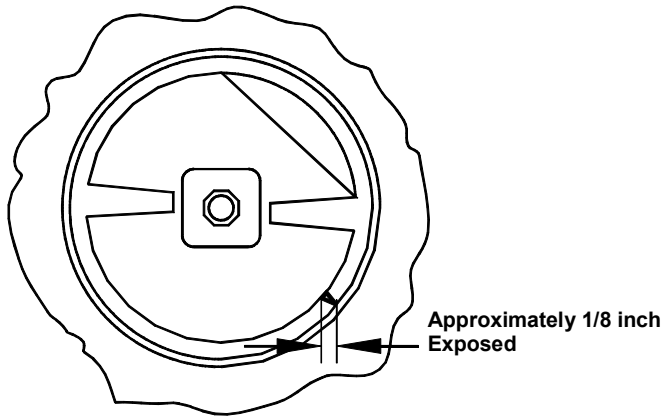

Fig. 21
- f. While maintaining force against the dasher, rotate it slowly until the tongue of the dasher engages the groove in the drive system at the rear of the cylinder. The outer most portion of the dasher should be recessed approximately 1/4" (6 mm) to 3/8" (10 mm) inside the freezing cylinder. No part of the dasher should extend outside the cylinder. Scraper blades should be visible, extending approximately 1/8" (3 mm) beyond the dasher (Fig. 21).